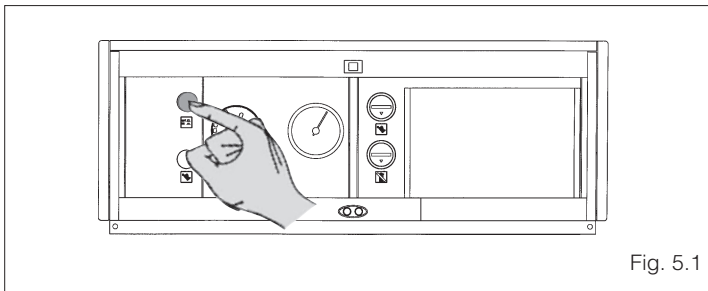

Fig. 5.1
- Switch the boiler on at the control panel switch and check that the green power indicator lights (fig. 5.1).